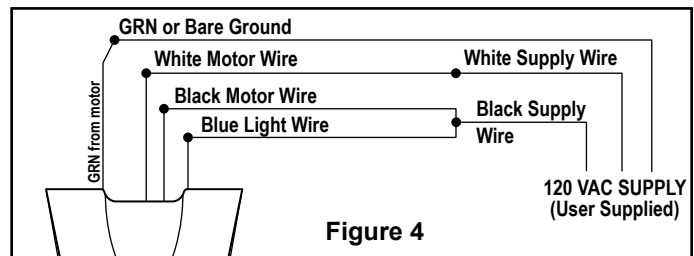
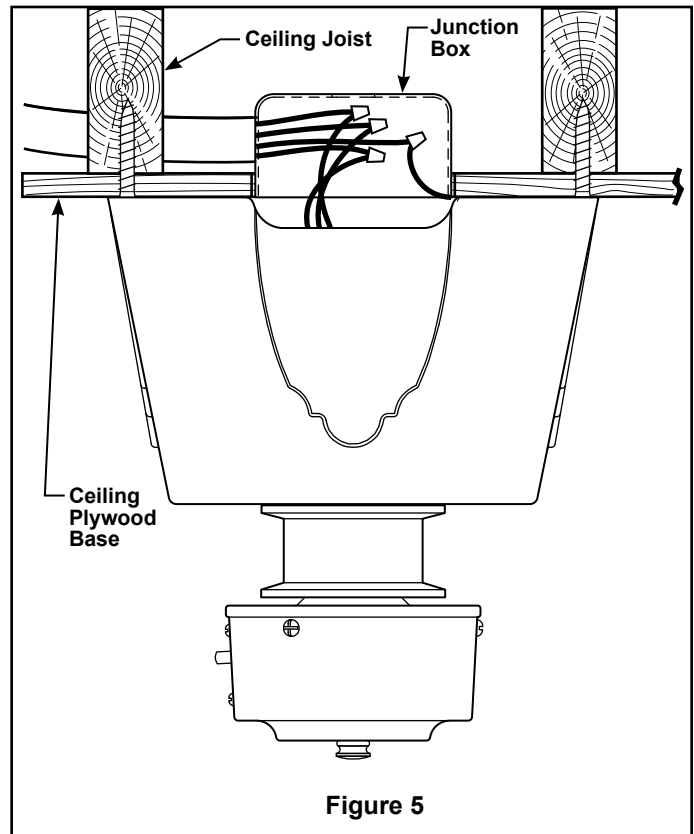

Figure 4
Figure 5
3. Connect the green grounding lead from the fan motor to the supply grounding conductor (this may be a bare wire or wire with green colored insulation). Securely connect wires with wire connectors supplied. (Figure 4)
5. Securely connect the white fan motor wire to the white supply (neutral) wire using wire connector supplied. Securely connect the black fan motor wire to the black supply wire using wire connector supplied. (Figure 4) After connections have been made, turn leads upward and carefully push leads into the outlet box, with the white and green leads on one side of the outlet box and the black lead on the other side of the outlet box. (Figure 5)